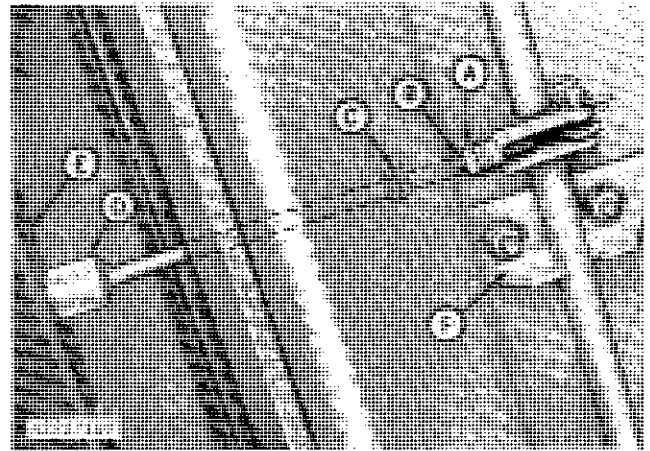

Fig. 121-Adjusting Actuating Rod
3. Loosen lock nut "A" on actuating rod "B" (Fig. 121).
4. Raise row unit to maximum height and turn adjusting nut "C" on actuating rod until stop "D" lightly rests against row unit bracket "E" (Fig. 121). Adjust stabilizer brackets "F" on control rod, to maintain rod in a straight line, the length of the header.†
5. Tighten lock nut "A" and lower row unit. Repeat procedure for each row unit and retain pin for future use (Fig. 121).